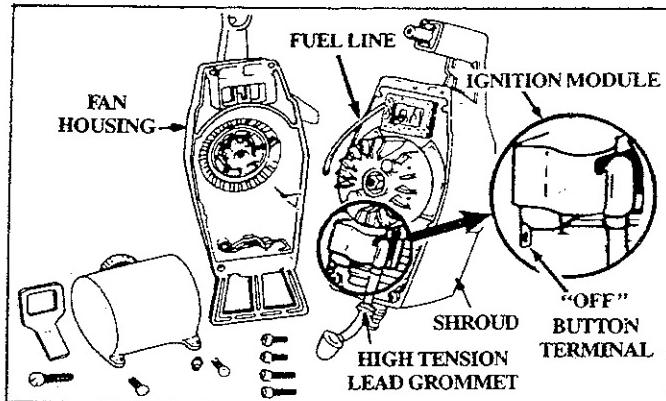

Figure 26
6. Slide high tension lead grommet from slot in fan housing. Figure 26.
7. Separate fuel line leaving the connector in the end attached to the fuel tank. Figure 26.
8. Separate the fan housing completely from the shroud. Figure 26.
CAUTION: Before replacing the fan housing, make certain that the "off" button terminal on the ignition module is not bent. See insert, Figure 26.
24. Position the "off" button terminal as shown. Figure 26.
26. If the engine will not stop, move choke to the "On" position, (Figure 8) to stop engine. Disassemble fan housing and be sure the "off" button terminal (Figure 26) is in the correct position. Reassemble parts.